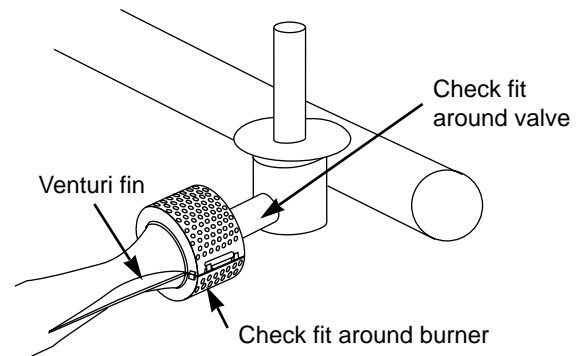

Figure 23
15. Reinstall the Spider Stopper Guards. Slightly rotate the Spider Stopper Guards so that the seams are in line with the Venturi fins. There should be no gaps in the seams or in the fit around the burners and valves. Figure 23.